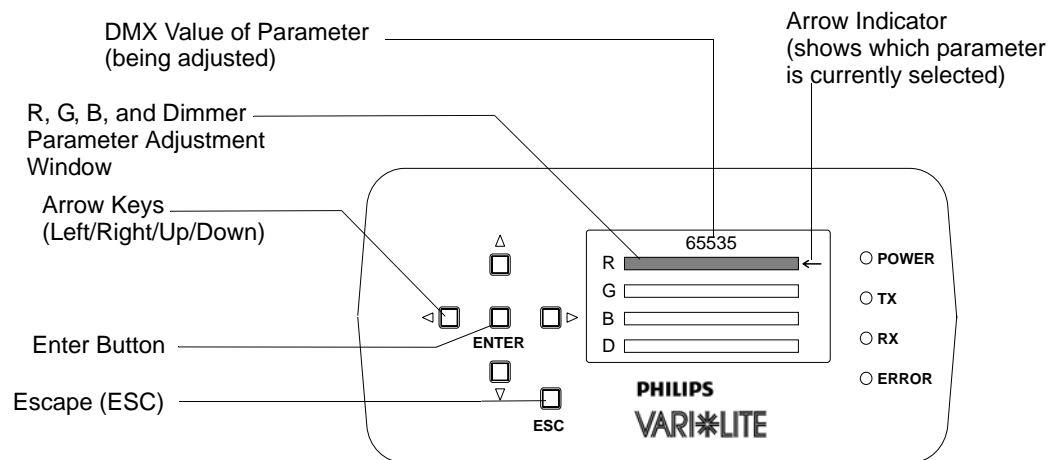

Figure 1-1: Manual Color Adjustment - LCD Display
As shown in **Figure 1-1**, a window will appear in the LCD Display that will allow access to Red (R), Green (G), Blue (B), and Dimmer (D) parameters that can be adjusted as desired.